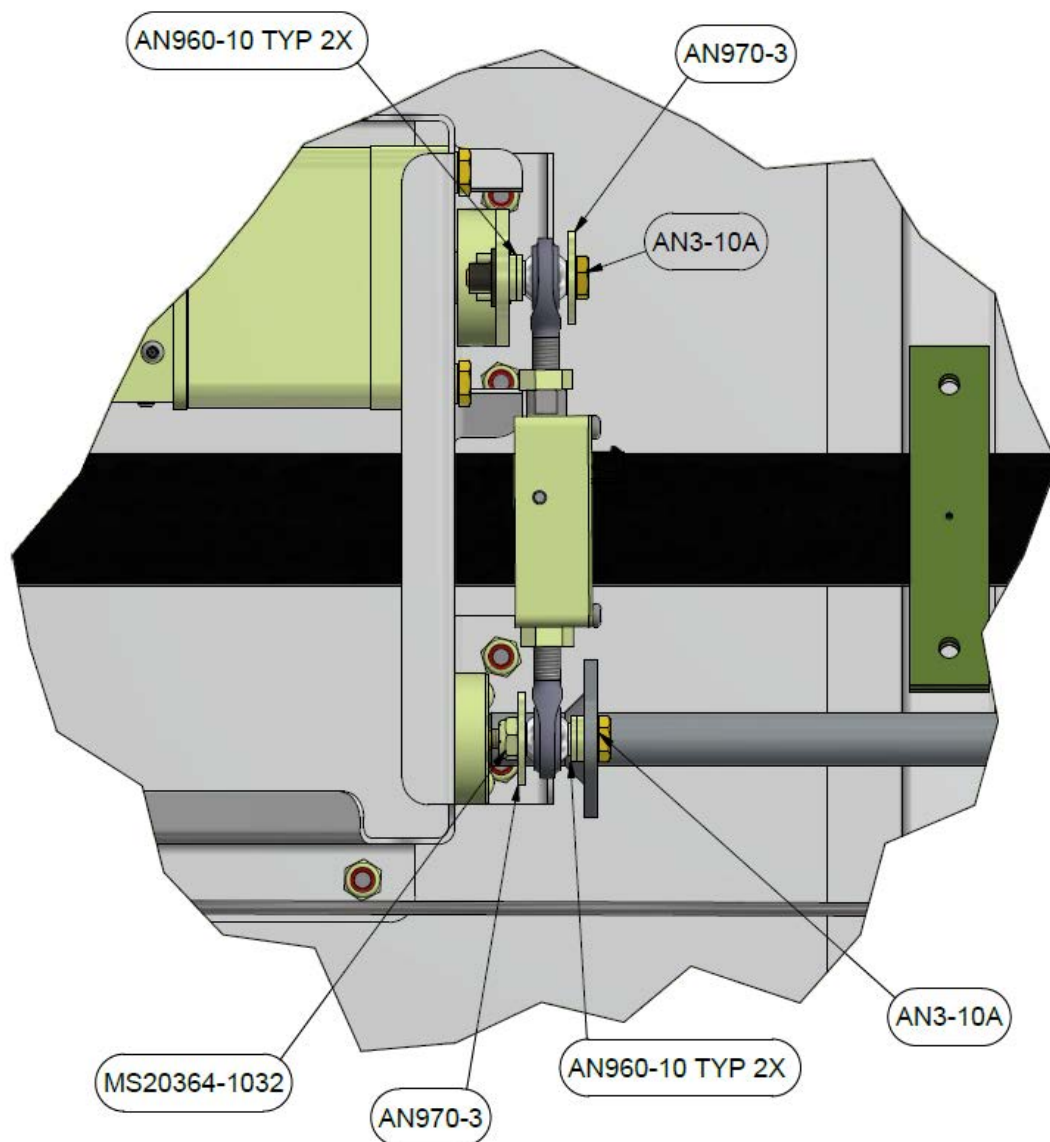

Figure 2-19
- 1.32. Install the link sensor assembly as shown in Figure 2-19. Torque fasteners to 20-25 in-lb.